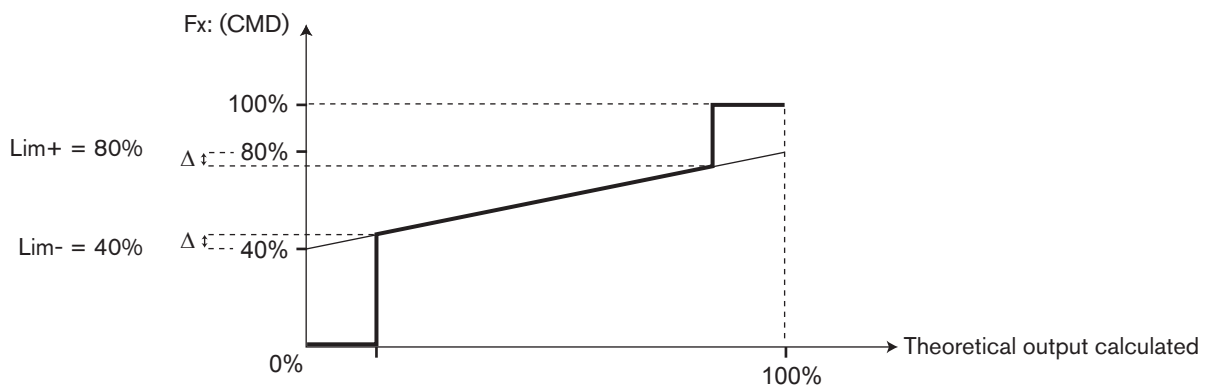

Fig. 43: Example of "Lim-", "Lim+" and "State OFF" parameters setting
**LIM- and LIM+:** Some actuators (proportional solenoid valves) work on a reduced range (e.g. 40 - 80%); the parameters "Lim-" and "Lim+" are used to match the working range of the actuator with that of the 8619: see Fig. 43.